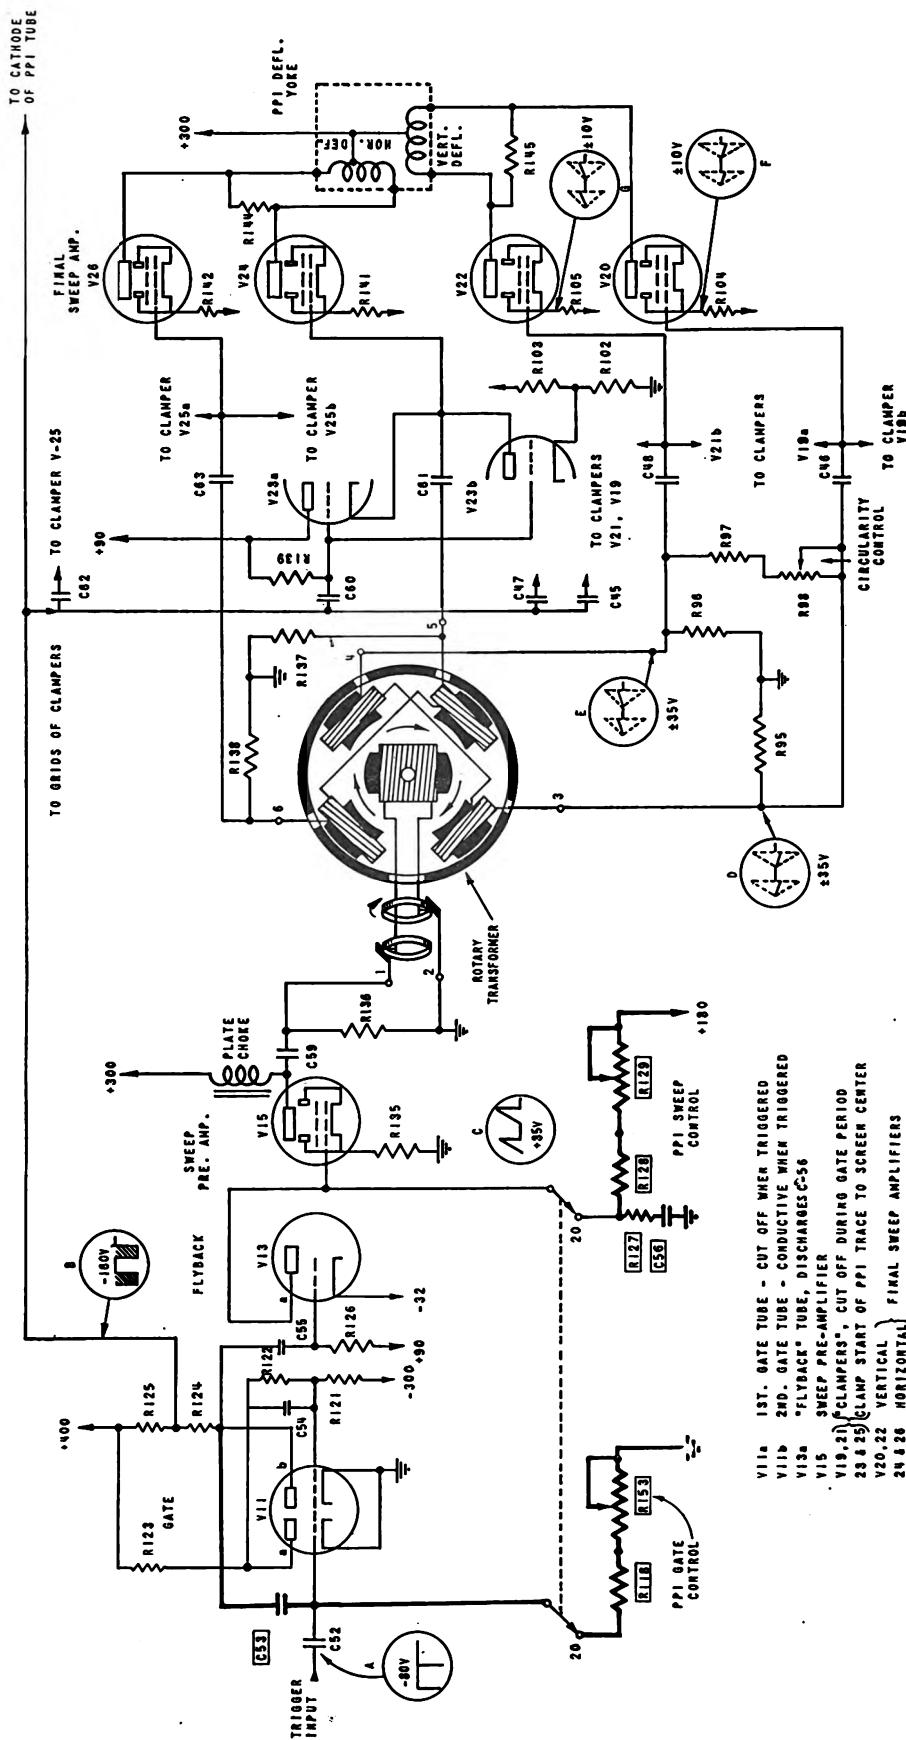

Figure 34. PPI scope sweep functional schematic.
(a) *General.* The same pulse, originating in the pulse-transformer, that triggered the "A" scope sweep circuit, simultaneously triggers the PPI scope sweep circuit. The negative triggering pulse of about 75 volts amplitude is fed through capacitor C52 to the grid of the first section of tube V11 (fig. 34). This PPI start-stop type of multivibrator is essentially a duplicate of the "A" multivibrator. The detailed circuit analysis of the mul-
(b) *Sweep Circuit.* Tube V13a has a positive bias voltage applied to the grid through resistor R126 (fig. 34). The tube conducts heavily and acts as a low impedance across capacitor C56, causing low voltage across the capacitor. When the negative pulse is applied to the sweep generator grid circuit from the second section of the multivibrator, the sweep generator tube is driven to cut-off. Plate current ceases, the plate voltage rises, and the capacitor then charges to the voltage applied through the plate resistor network. The output waveform across the capacitor alone would be exponential or sawtooth. However, the output
(3) SWEEP AMPLIFIER (fig. 34). The output trapezoidal waveform voltage from the sweep generator is directly coupled to the grid of the PPI sweep amplifier, tube V15. The cathode resistor R135 is not bypassed. The resultant degeneration improves the linearity of the stage. Choke CH1, used in the plate circuit, assures the maximum power transfer to the selsyn rotor. The amplified output of this tube is fed through capacitor C59 to the rotor winding of the selsyn transformer.
the antenna. Four field windings of the rotary transformer are spaced  $90^\circ$  apart surrounding the rotor winding (fig. 34). The function of the resistor R136, shunting the rotor, is to reduce the input impedance of the transformer and make it resistive.
(5) DEFLECTION AMPLIFIER STAGE. The trapezoidal sweep voltages from the selsyn-transformer field windings are applied to the grids of the PPI deflection amplifiers, tubes V20, V22, V24 and V26 (fig. 34). These amplifiers, connected in push-pull, energize the fixed deflection coils on the cathode-ray tube. Tubes V24 and V26 make up one push-pull amplifier combination, and tubes V20 and V22 make up the other.
(6) DEFLECTION COILS (fig. 34). The deflection yoke of the cathode-ray tube consists of windings through which the plate current from the deflection amplifiers flow. This current, increasing in one amplifier and decreasing in the other, causes magnetic beam deflection. The deflection coils are arranged  $90^\circ$  apart around the cathode-ray tube so that current from one set of the push-pull tubes produces a deflection of the beam in a direction  $90^\circ$  from the displacement caused by the other set of tubes. Since the excitation voltages vary as the rotor of the selsyn transformer is turned, and since the deflection coils are arranged  $90^\circ$  apart, as in the selsyn stator, a rotating field is produced by the deflection coils which is always in line with the field produced by the stator of the selsyn. The sweep rotates with the turning of the transformer rotor. The path of the spot is as a radial line
(b) *Description.* Four duo-triode tubes, V19, V21, V23, and V25, are used in the clamping tube circuits. The two sections of each tube are used for each amplifier. See indicator schematic, figure 39. Consider only the two sections of clamping tube V23 (fig. 34) without any sweep voltage or "un-clamping" voltage being applied. The circuit functions as a voltage divider. The two triodes of tube V23 are connected in series with +90 volts applied to the plate of V23a. The cathode of V23b is near ground potential. The grids of the two sections are tied together. Applying B+ potential to both grids through resistor R139 makes both sections of the tube highly conductive. As plate voltage is applied, current flows through the two sections in series. The voltage drop across each tube develops in proportion to the amount of plate resistance each tube offers. The resistance offered by the circuit of tube V23b is greater than the resistance of the second section because of the cathode resistor R102 in the circuit of the first section. The voltage drop across each section develops in proportion to the amount of resistance each section offers. The bias on the grid of the amplifier tube V24 is the potential existing at the junction of cathode and plate between sections one and two. The junction point, which remains at a constant potential during the interval
(c) *Unclamping*. Since the plate-cathode junction of the clamping tubes is connected to the grid of the deflection amplifiers, the low impedance of the clamping tubes is eliminated while sweep voltage is being applied to the grids of the sweep amplifiers from the selsyn transformer. This is accomplished by applying a negative square wave to the grids of the clamping tubes. This negative square wave, or unclamping voltage, is obtained from the voltage divider network (R124 and R125) in the plate circuit of the second section of the multivibrator tube, V11b (fig. 34). The wave is applied at the same instant the sweep voltage is impressed on the grids of the deflection amplifiers. The negative square wave is coupled to the grids of the four clamping tubes through capacitors C45, C47, C60 or C62, and is of sufficient amplitude to cause the clamping tubes to be biased beyond cut-off for the duration of the sweep. In this way the grids of the sweep amplifiers are unclamped and move freely. The sweep voltage disappears at the same instant
(e) *Circularity Control*. The CIRCULARITY control, potentiometer R98, controls the magnitude of the sweep voltage at the grids of one set of deflection amplifier tubes V20 and V22 (fig. 34). The deflection produced by each set of deflection coils may thus be equalized so that a completely circular trace is seen on the screen. This control is located on the upper deck at the rear of the indicator (fig. 97).